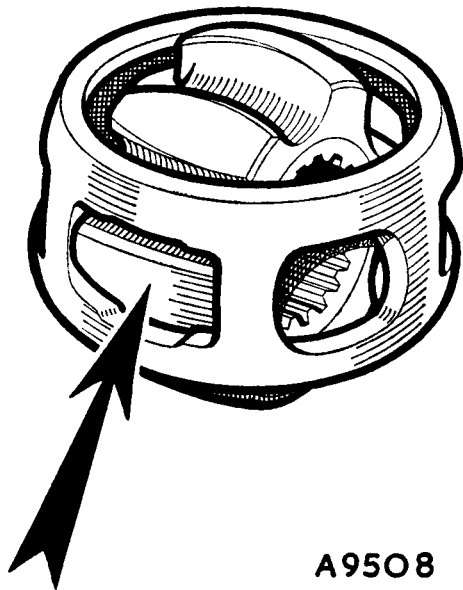

Fig. G.4
9. Swivel the inner race at right angles to the cage and turn it until two of the lands between the inner race tracks are opposite elongated windows in the cage. One land will drop into a window, allowing the inner race to be extracted from the cage (Fig. G.4).
17. Insert the inner race into the cage by introducing one of the lands into an elongated window in the cage (Fig. G.4).